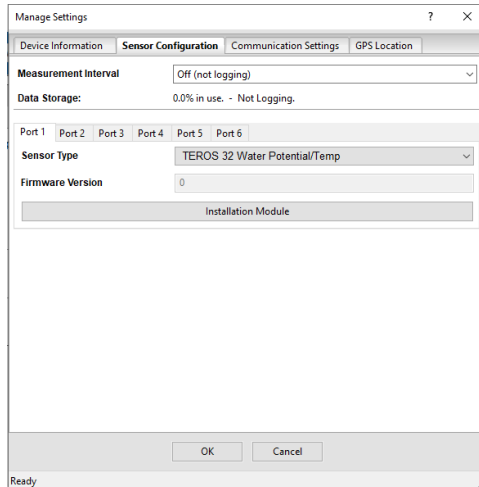

Figure 4 Sensor Configuration tab
- Select the **Sensor Configuration** tab (Figure 4).